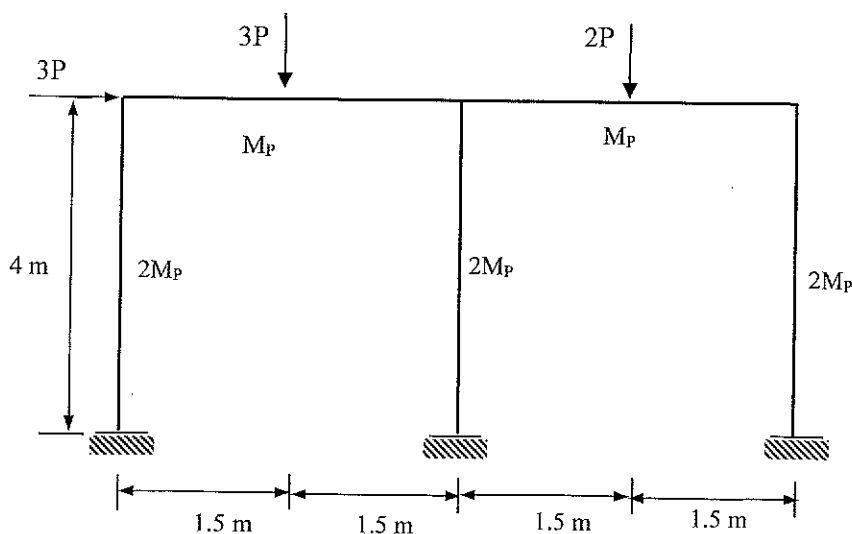

Figure Q7
- (ii) A two-bay frame structure is shown in Figure Q7. Dimensions and plastic moments of the columns and beam are given in the figure.